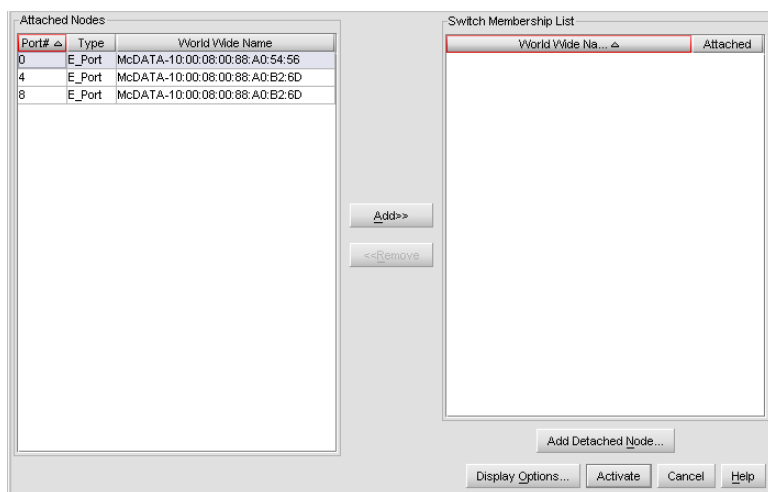

Figure 65 Switch Binding Membership List dialog box
1. Choose **Configure > Switch Binding > Edit Membership List** from the Element Manager window. The Switch Binding – Membership List dialog box displays (Figure 65). The WWNs of devices and switches that can currently connect to switch ports are listed in the Switch Membership List panel.